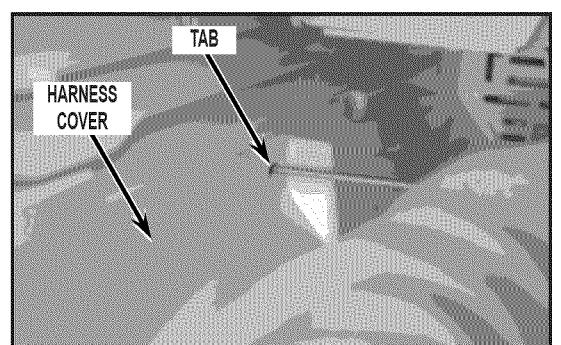

FIGURE 4
- Depress the tab holding the harness cover and slide cover forward. See *Figure 4*.